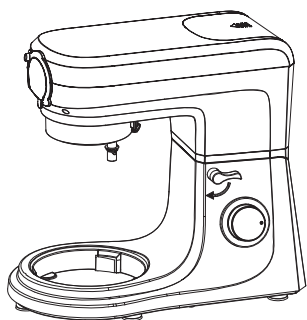

Fig1
2. Place the machine on a flat, clean and dry table, press the head of the machine, and turn the head knob [2], the upper body will lift up automatically. [Fig1&2]